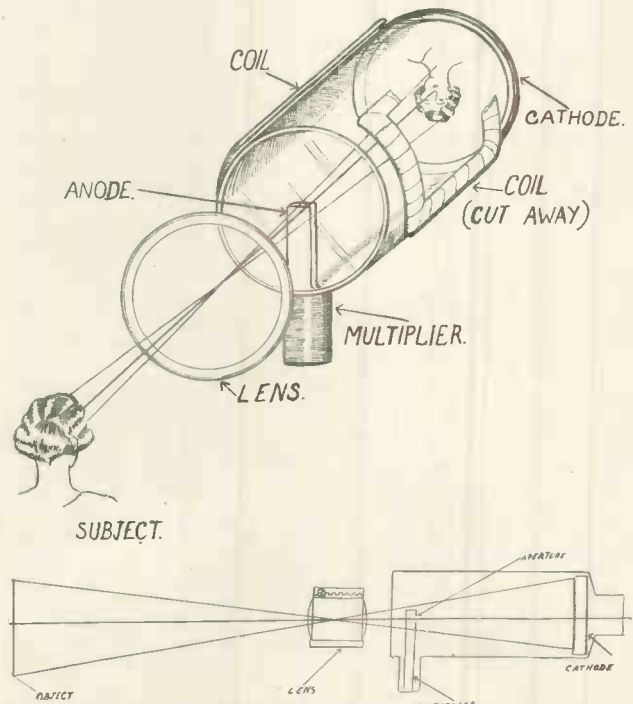

Fig 1.—Pictorial representation of the electron camera showing how the subject is focused optically on to the cathode.
**I**N principle the electron image is a faithful representation in electron density of the light picture thrown on the cathode. This electron picture is obtained by focusing the optic image on to the photo-electric cathode of the electron tube (Fig. 1), by means of a lens. The energy of the light forming the optical image causes the release of electrons from the various points on the photo-electric cathode, in numbers proportional to the light intensity at those points, so that any instant in the plane of the cathode surface an electron image of the optical image may be said to exist.